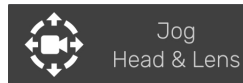

Figure 40 - Jog Head & Lens Button
1. On the touchscreen, tap the **Jog Head & Lens** button (**Figure 40**).